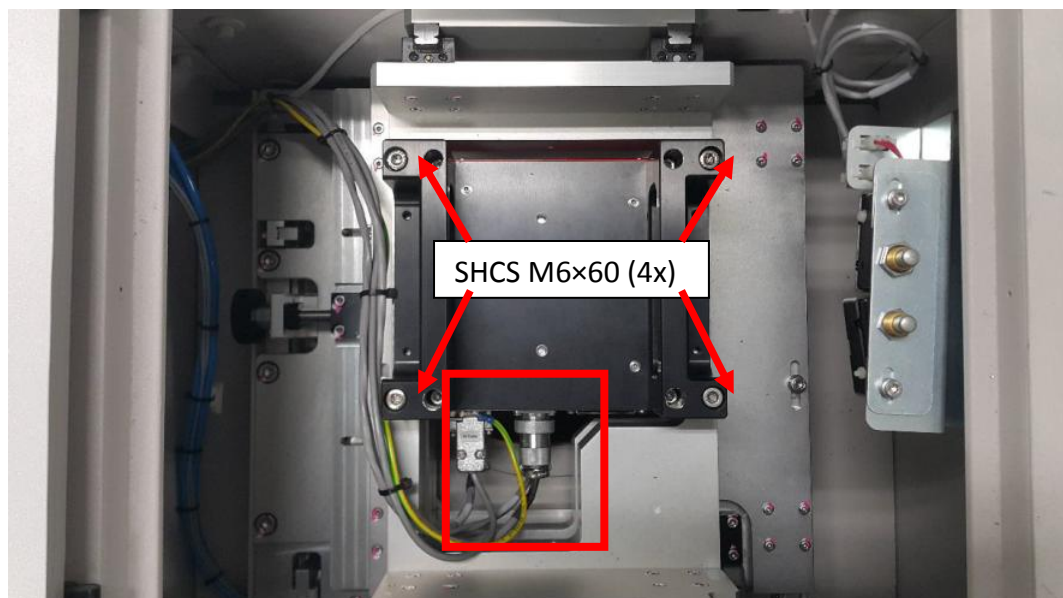

Figure 13 X-ray tube placement
14. Insert X-ray tube as shown in Figure 13 and tighten X-ray tube by using SHCS M6×60 (4x)